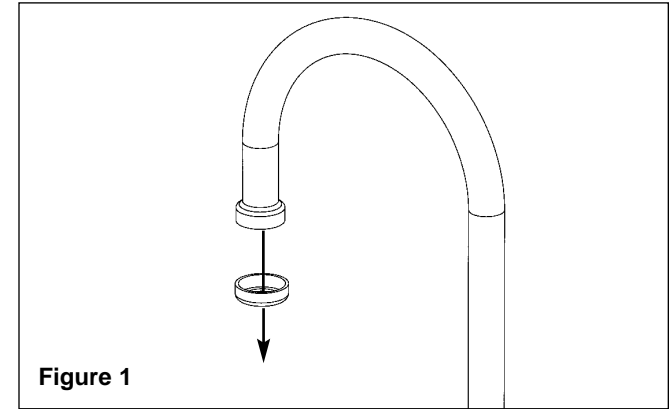

Figure 1
1. Remove the existing aerator from the faucet (see Figure 1).